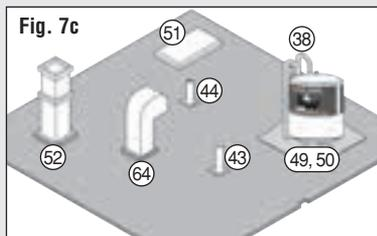

Fig. 7c
Roof A (Fig. 7c): Pipe Vent (43), Pipe Vent (44), Water Tank Assembly (49, 50), Ladder (38), Hatch (51), Vent (64), Chimney (52)